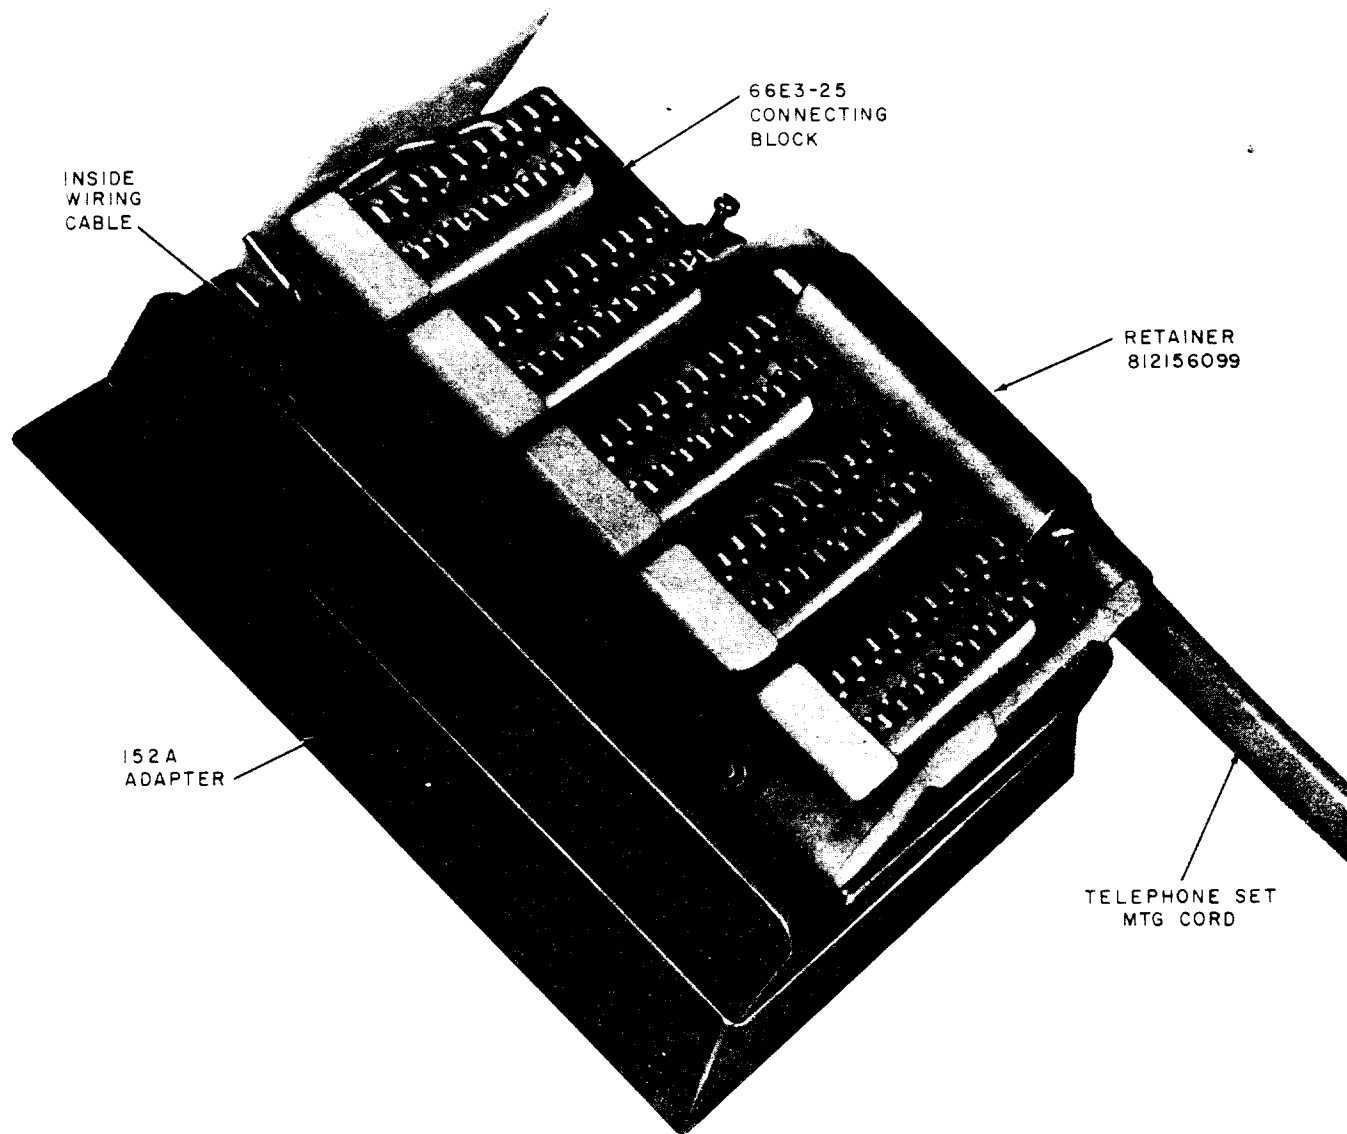

Fig. 4—66E3-25 Connecting Block Installed on 152A Mounting Adapter
3.02 Install the 152A adapter on electrical outlet box or overfloor duct and mount the 66E3-25 connecting block to the adapter, using the mounting hardware provided (Fig. 4). Terminate the cable conductors on the connecting block pins (Fig. 6), connect station telephone set to connector assembly, and install snap-on cover.